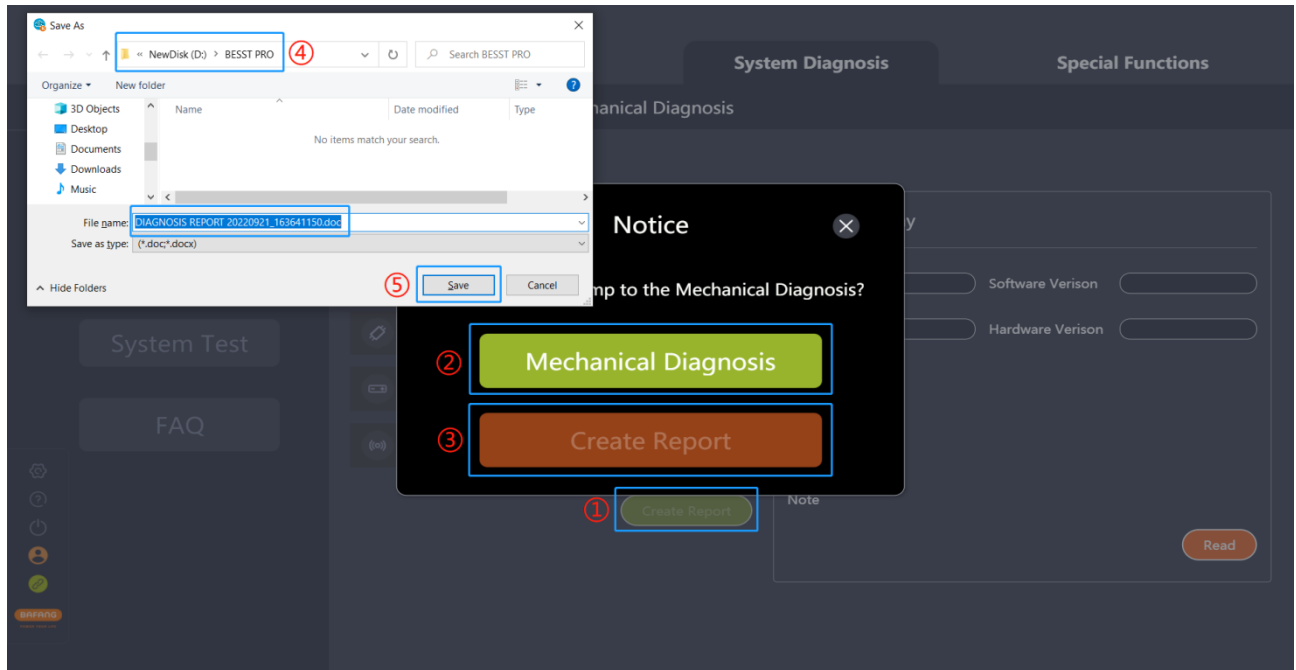

Fig. 6-10 Create report in electronic diagnosis
- (1) Click on the “Create Report” icon and the software will prompt “Do you want to jump to the Mechanical Diagnosis?” (e.g. Fig. 6-10);
- (2) For mechanical diagnosis, select “Mechanical Diagnosis” to jump to the mechanical diagnosis interface;
- (3) If not, click on the “Create Report” icon;
- (4) Select the local save path;
- (5) Click the “Save” icon to generate a report.